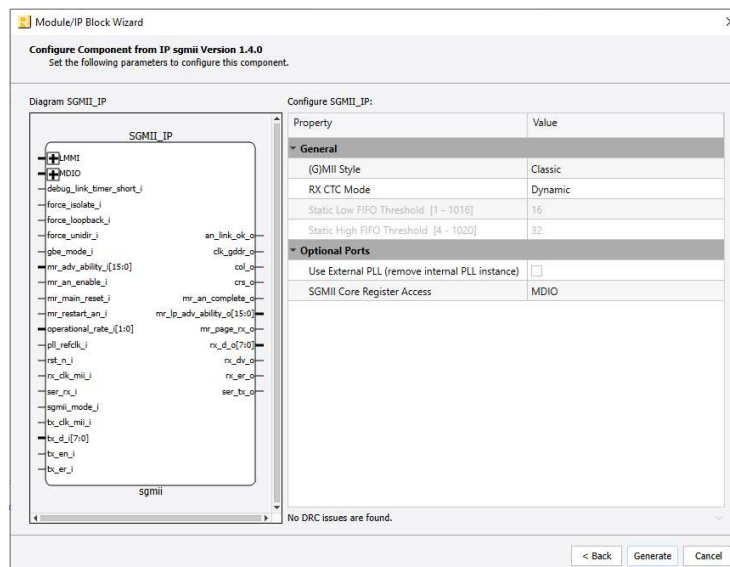

Figure 3.2. Configure User Interface of SGMII IP Core
3. In the module’s dialog box of the **Module/IP Block Wizard** window, customize the selected SGMII IP Core. As a sample configuration, see Figure 3.2. For configuration options, see the Attribute Summary section.